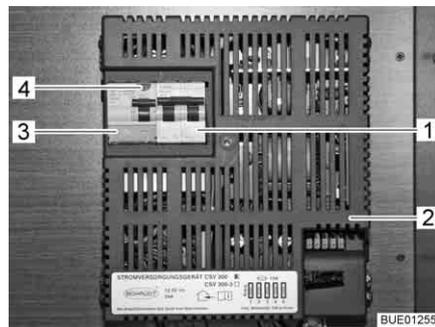

Fig. 115 230 V automatic circuit breaker and FI-switch (CSV 300)
A fault current protection switch (FI-switch) (Fig. 115,3) in the power supply unit CSV 300 (Fig. 115,2) protects the complete vehicle from fault current (0.03 A).
A downstream two-pole safety cut-out (Fig. 115,1) in the power supply unit protects the 230 V power supply.
- When the vehicle is connected to the 230 V power supply, press the test button (Fig. 115,4). The fault current protection switch (FI-switch) must trip.